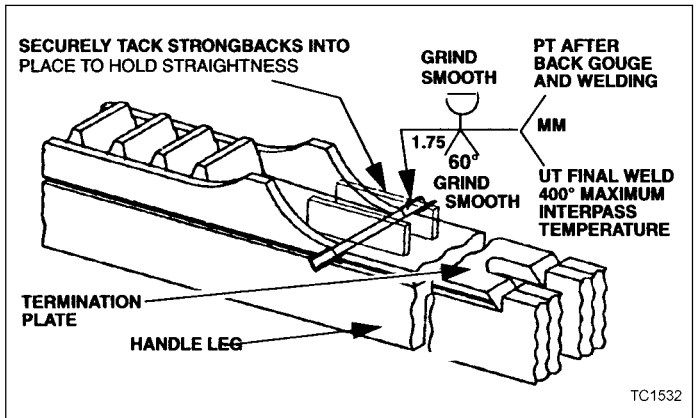

Figure 6-44. Strongback Installation
2. Tack weld “V - Shaped” run-off tabs, as shown in Figure 6-44, to the rack termination groove ends using no preheat on the racks and a 225° F (107° C) preheat on the termination plate. Weld sufficient passes into the groove to give a weld depth of 3/4 inch (19.05 mm). Use MM filler metal. Hammer peen weld beads immediately following weld pass. No preheat is required on the rack side of the joint. Do not exceed 400° F (204° C) maximum interpass temperature. Wait one minute between successive butter weld passes. A preheat of 225° F (107° C) is required on the termination plate.
3. Using a 3/8 inch (9.5 mm) fillet, tack weld two 22 inch (559 mm) long strongbacks, across the joint as shown in Figure 6-44, to hold the termination plate to the rack assembly using no preheat on the rack and a 225° F (107° C) preheat on the termination plate. (Refer to Figure 6-44).